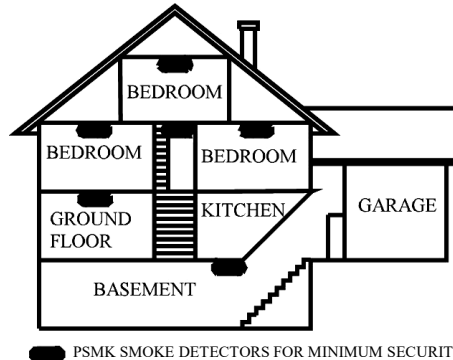

Fig. 3: Location for placing smoke detectors for a multi-floor residence.
- Install a smoke detector on every floor of a multi-floor home or apartment, as shown in Fig. 3.